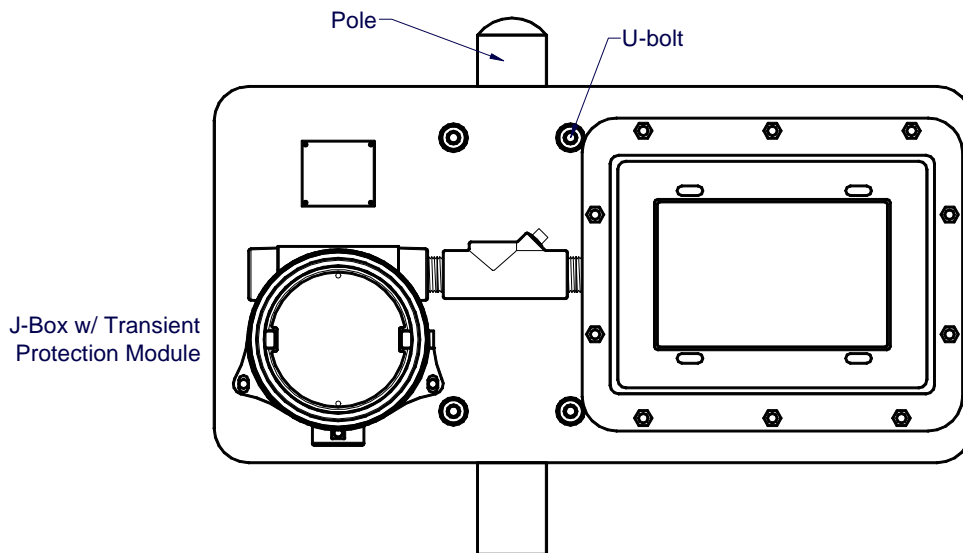

Figure 20 N7 Controller Assembly w/Mounting Plate
- If the unit comes with the optional mounting plate and a Condulet, attach the mounting plate assembly to a pole with two U-Bolts secured through the $\frac{7}{16}$ " rectangle holes of the mounting plate base (Figure 20).